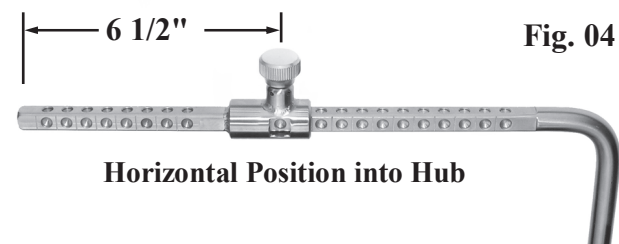

Fig. 04
Back out (open) the non-removable Lock Knob until it stops (Fig. 02). The Crank Handle may be placed either to the right or left of the surgeon depending on preference. The Top Post has alignment marks and detents on the squared section for securing the Gearbox to the post. Slide the Ratchet onto Top Post to desired position between alignment marks. Placement of the Gearbox between alignment marks locates the Lock Knob directly over detent for proper tightening (Fig. 04). Tip of Lock Knob must completely insert into detent of Top Post to assure proper seating. Note opened and closed position of Lock Knob (Fig. 05 & 06). **CAUTION: Hand tighten Lock Knob and Spool Cap Nut securely** (Fig. 02).
**Horizontal Position Into Hub:** Extender Bar attached to Top Post positions ratchet over xiphoid area for direct upward lift of incision site (Fig. 04).